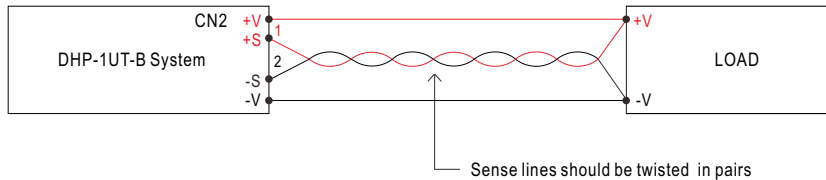

Figure 1-1 Connection of Remote Sense
- ※ When using this function, the sensing wires should either be twisted or shielded to prevent external noise interference (refer to Figure 1-1).